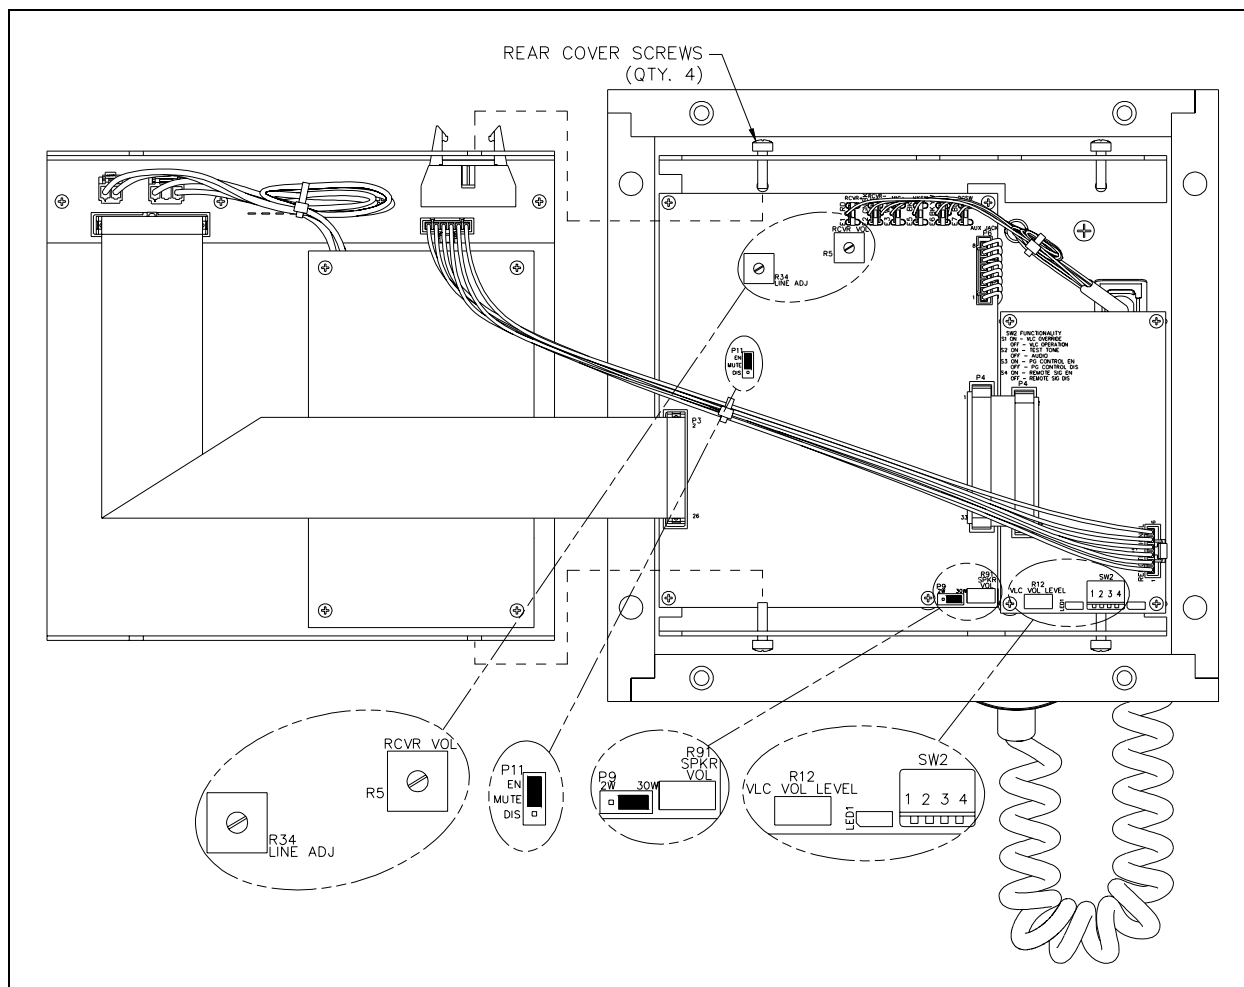

Figure 10. View of Open Amplifier for Setting and Adjustments.
1. Place the amplifier on a flat surface and loosen, but do not remove, the two sets of rear cover screws located on the top and bottom L-shaped slots. See Figure 10.
Refer to Figure 10 for locations. It is recommended to use a No. 10440-002 Maintenance Cable (sold separately) to perform the following adjustments.